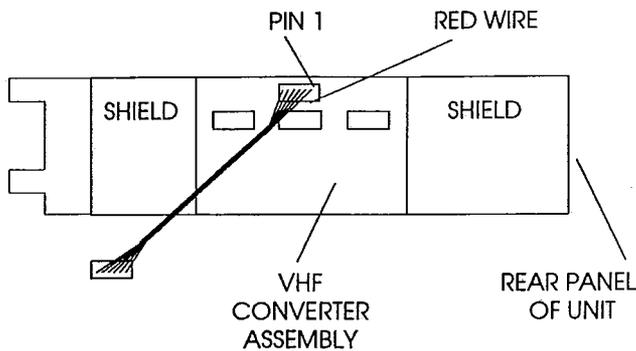

FIGURE 1
1) Remove the top cover from the R8 receiver by removing (5) #6-32 x 1/4" Pan Head Phillips BLACK screws. Retain the cover and screws for reassembly.
2) Remove the bottom cover from the R8 receiver by removing (6) 4-40 x 1/4" Pan Head Phillips screws. Retain the cover and screws for reassembly.
3) Identify the (6) conductor cable (17" length) and plug it onto the VHF converter assembly (Figure 1) being careful to align the connector with the RED conductor on Pin 1 of the VHF converter assembly.